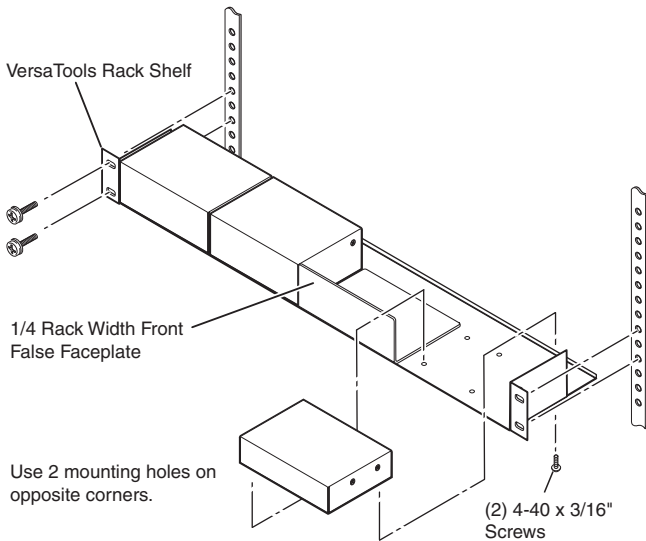

Figure 2-1 — Mounting the VSW 2VGA A on a rack shelf
- Attach the switcher to the rack shelf using two 4-40 x 3/16 inch machine screws. Insert the screws from the underside of the shelf and securely fasten them into diagonally opposite corners, as shown in figure 2-1.